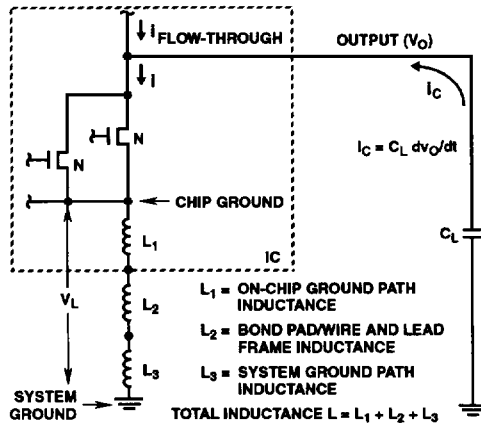

FIGURE 12. INDUCTANCES AND TRANSIENT CURRENTS RELATED TO GROUND BOUNCE
Figure 12 shows the case of an FCT output switching from high to low. Transient current i flows through the total intrinsic inductance to system ground, causing a peak voltage differential (V_{LMAX}) between the on-chip ground and the system ground.
1. Layout techniques are used to reduce on-chip inductance in the V_{CC} and ground paths, especially for the segments that are common to all outputs. (See L1 in Figure 12).
2. Multiple bond-pads and bond-wires are used for V_{CC} and GND to reduce the inductance, in those paths, between the chip and the lead. (See L2 in Figure 12).